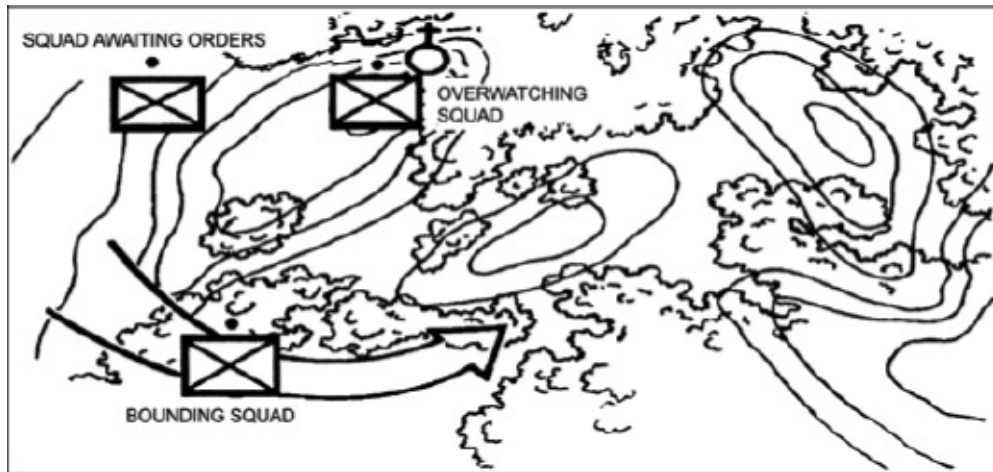

Figure 2-3. Platoon bounding overwatch
h. Platoon Bounding Overwatch (Figure 2-3).
- (1) **Method One.** When platoons use bounding Overwatch, one squad bounds and one squad overwatches; the third squad awaits orders. Forward observers stay with the overwatching squad to call for fire. Platoon leaders normally stay with the overwatching squad who use machine guns and attached weapons to support the bounding squad.
- (2) **Method Two.** Another way is to have one squad use bounding Overwatch and have the other two squads use traveling or traveling Overwatch technique.